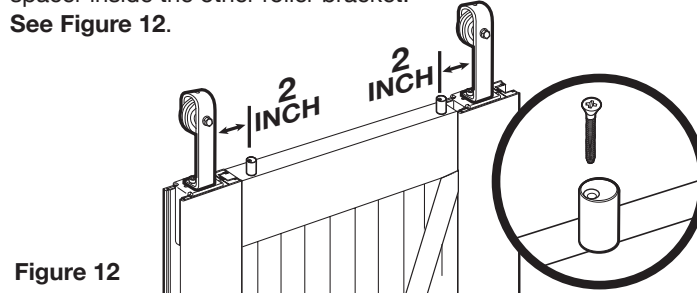

Figure 12
Once the Roller brackets have been secured and the finishing strips in place, it is important to install the Safety spacers (W). These spacers help to protect the door from being bumped off of the track. With the door laying flat in a safe and secure position, place one of the two spacers approximately 2" to the inside of one of the roller brackets. Place slightly off center towards the front of the door. Using a drill, secure the spacer with the screw provided. Repeat steps to install the second spacer inside the other roller bracket. See Figure 12.